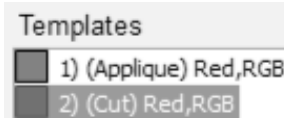

Fig. 22
15. In the *Export to Cutter* dialog select *only the Cut portion of the design* (See Fig. 22).